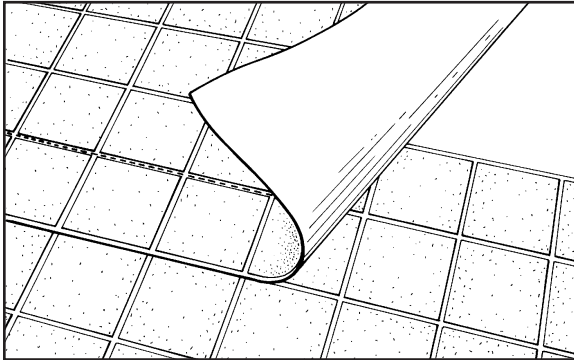

Fig. 24. Overlap the slit edges 2 full design units and cut the seam at the center of the embossed line.
- **Multiple seams:** In rooms where there is more than one seam, install the first 2 sheets reversed by seaming the factory selvages together. Install the third and alternating sheets (or fill pieces) reversed by overlapping the slit edges 2 full design units (one on each sheet of flooring). This method creates waste, but it positions the seam in an inconspicuous area (allows the seam to be cut in the center of an embossed line, Figure 24).